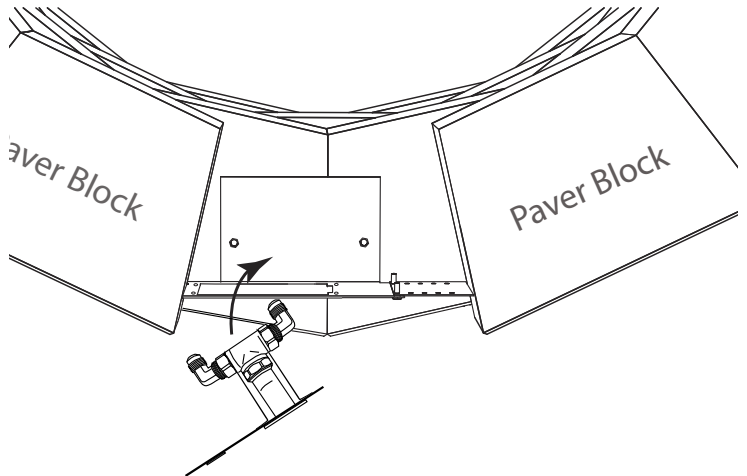

Fig. 7 Installing MT valve into control panel.
STEP 2: Once the 90° elbows are installed into the manual key valve then install the MT key valve bracket into Paver Kit control panel as shown in Fig. 7.